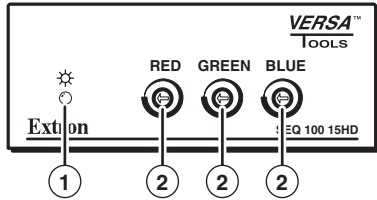

Figure 14 — SEQ 100 Skew Equalizer front panel
- ① **Power LED** — This front panel LED (figure 14) lights to indicate that the SEQ 100 Skew Equalizer is receiving power.